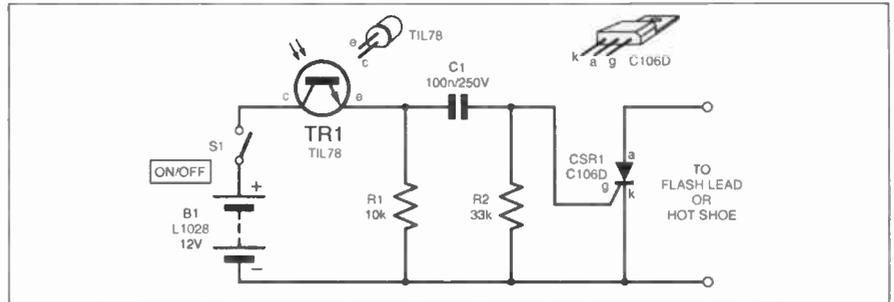

Fig.4. Mini Photo Slave Flash circuit diagram.
**A** CIRCUIT diagram for a simple Mini Photo Slave Flash trigger is shown in Fig. 4. It has evolved over more than thirty years from a design originally published in October 1967 *Practical Electronics* (thanks for sending the fascinating reprint – ARW) to the miniature version presented today.